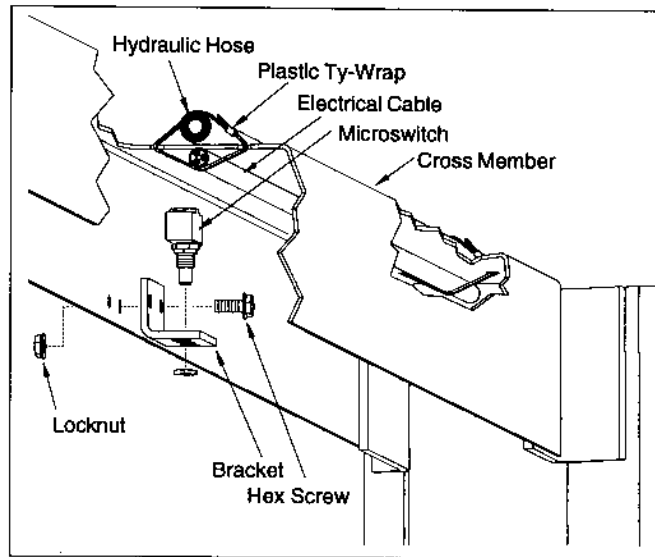

Figure 13 - Microswitch Mounting and Hose/Cable Routing
3. Attach the microswitch bracket to the cross member with 2 hex screws and locknuts. Refer to Figure 13.